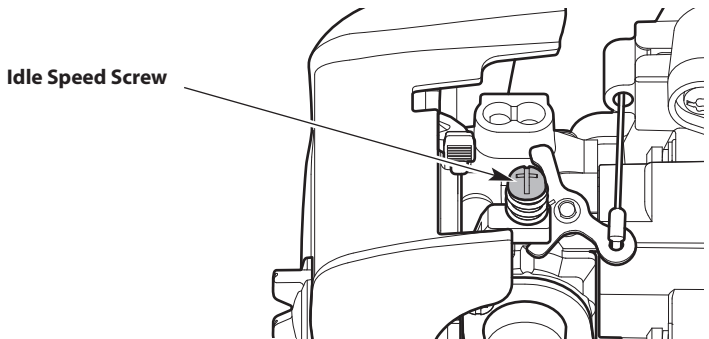

Fig. 28
- If the engine stops, increase the idle speed. Use a small Phillips screwdriver to turn the idle speed screw clockwise, 1/8 of a turn at a time, until the engine idles smoothly (Fig. 28).
- If the saw chain spins when the engine idles, reduce the idle speed. Turn the idle speed screw counterclockwise, 1/8 of a turn at a time, until the saw chain stops moving (Fig. 28).